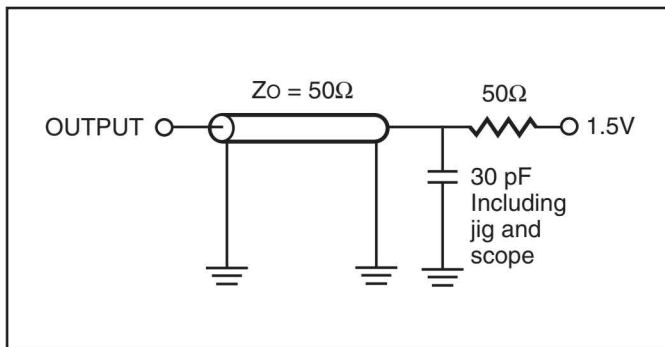

Figure 1.
1. Test conditions assume signal transition times of 3 ns or less, timing reference levels of 1.5 V, input pulse levels of 0 V to 3.0 V and output loading specified in Figure 1.
1. Test conditions assume signal transition times of 3 ns or less, timing reference levels of 1.5V, input pulse levels of 0V to 3.0V and output loading specified in Figure 1.